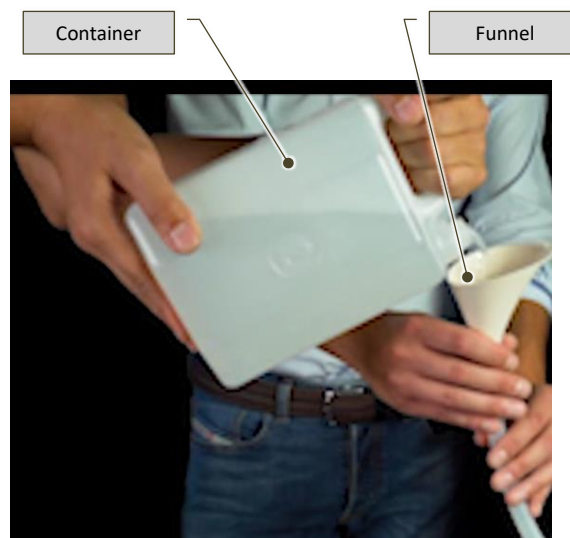

Fig. 7-19 – Insertion of the cooling liquid
- Hold the free end of the top-up tube, insert the supplied funnel in this end and and, while holding the tube in vertical position, fill the tank with cooling liquid (Fig. 7-19): the correct cooling liquid level in the tank is reached when water starts flowing out of the upper “overflow” tube;